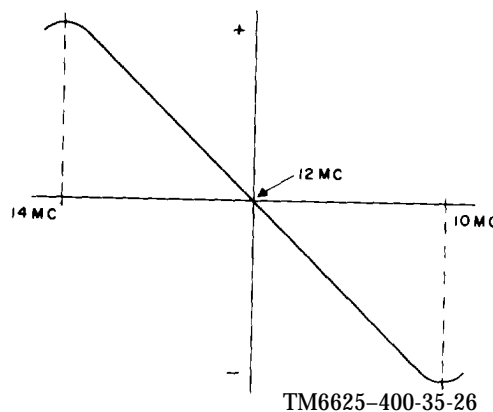

Figure 26. Discriminator response curve.
e. Loosely couple a marker to the probe and check the location of the 10-, 12-, and 14-mc markers. These points should be as shown in figure 26.